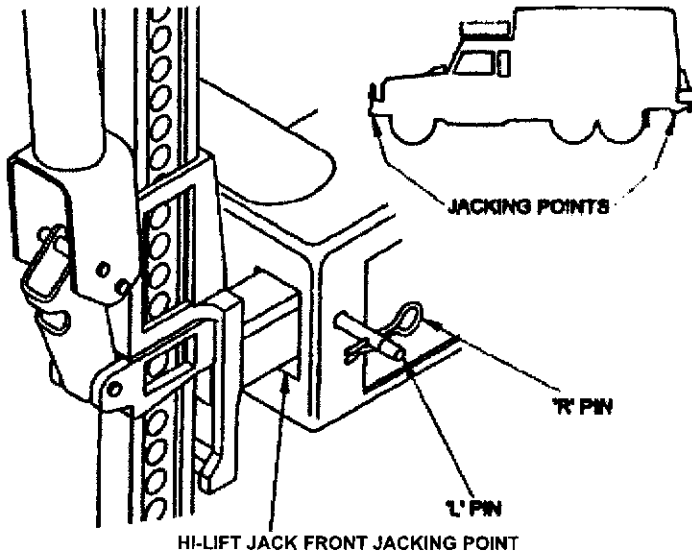

Figure 2-3 Hi-Lift Front Jacking Point and Insertion of Safety Pin
- (1) Front wheel. Position the jack in the front lifting point (see Fig. 2-3).
- (2) Rear or intermediate wheel. Position the jack in the rear lifting point.
- (3) Adjust the jack so that the foot rests on the ground, insert the 'L' pin into the jack tongue to secure the jack in place, and insert the 'R' pin (see Fig. 2-3).